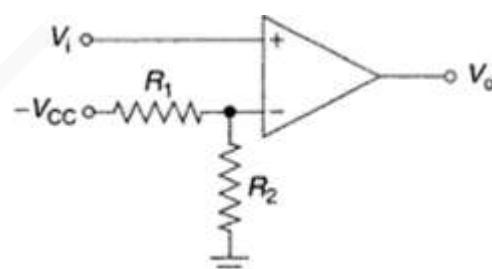

Figure 17.42: Non-inverting comparator with negative reference
- negative voltage (Figure 17.42).